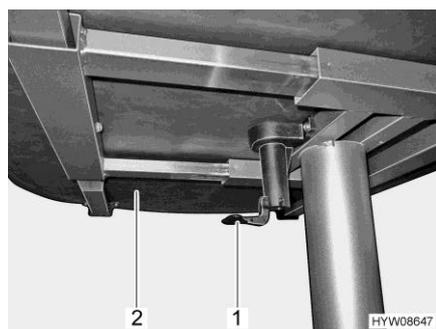

Fig. 132 Lever for moving the table top
- Pull or press down the lever (Fig. 132,1).
- Move the table top (Fig. 132,2) to the desired position.